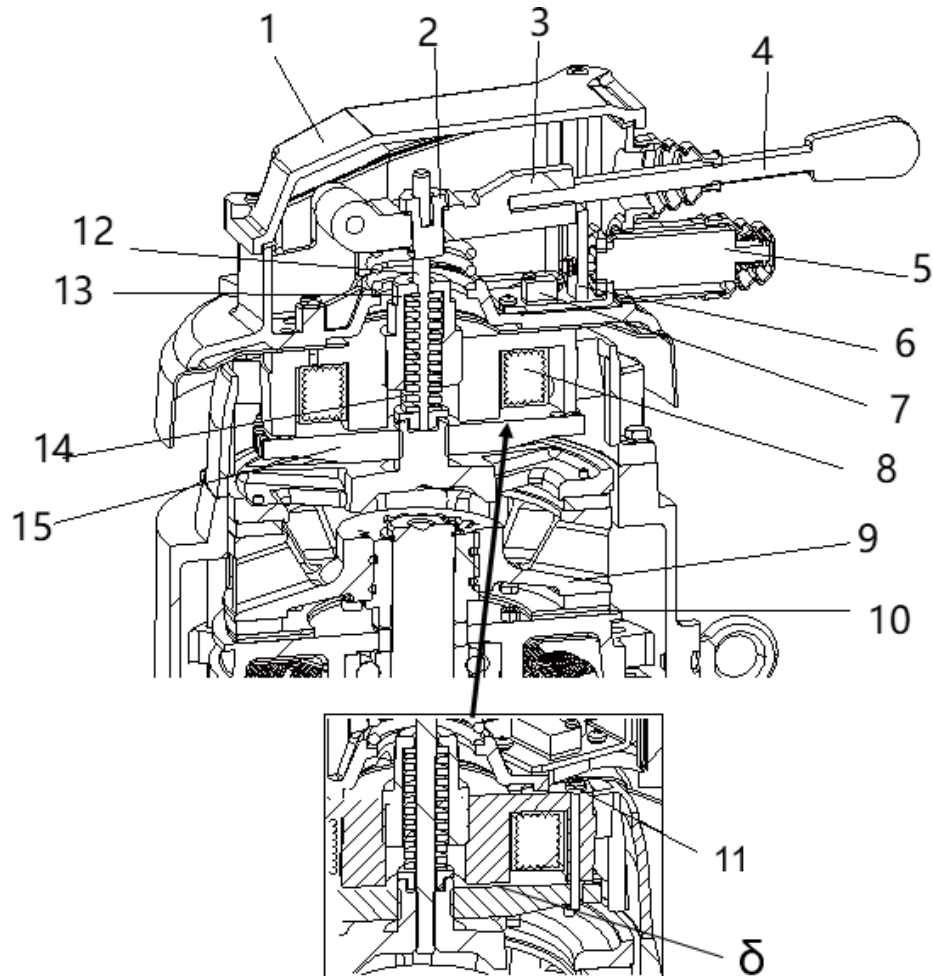

Fig. 6-24 Brake structure
6.6.2.3 Clearance adjustment and maintenance (1)
For conventional brake structure see Fig. 6-24, brake friction plate (13) after long-term use of friction losses, armature (10) and field core (9) increase the air gap δ , brake spring (16) length increases, reduce the braking moment, because the air gap δ may increase at the same time, the armature (10) have difficult in actuation, serious will not be able to actuation, result the motor in braking state, and then the motor burnout. There before, it is necessary to check the air gap δ value frequently. When the static braking moment is less than the stipulate value or greater than 1.2mm, the δ should be adjusted in time. And if the friction plate (13) is worn to close to its steel mail, the friction plate (13) should be replaced in time.